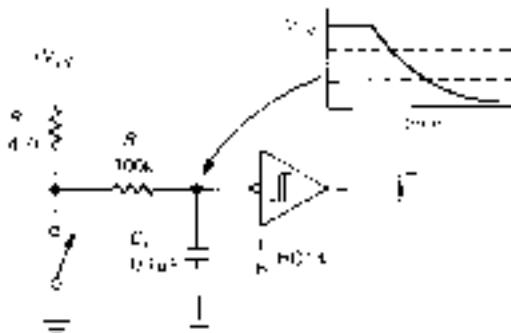

Figure 9.9. Switch debouncer:  $RC$  plus Schmitt trigger.
The TTL input threshold is typically around +1.3 volts, although the specifications only guarantee that it is between +0.8 and +2.0 volts. TTL gates with Schmitt-trigger inputs are available ('13, '14, '132), with  $\pm 0.4$  volt hysteresis; they are indicated by a hysteresis symbol within the gate outline (e.g., Fig. 9.9).  $V_{\text{supply}}$  (usually called  $V_{CC}$ ) is +5.0 volts  $\pm 5\%$ .
3. Use an *RC* slowdown network to drive a CMOS Schmitt trigger (Fig. 9.9). The low-pass filter  $R_2C_1$  smooths the bouncy waveform so that the Schmitt-trigger gate